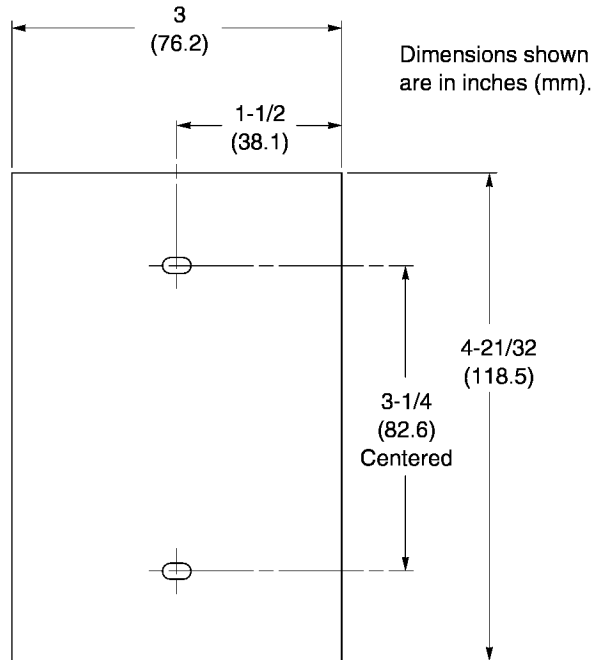
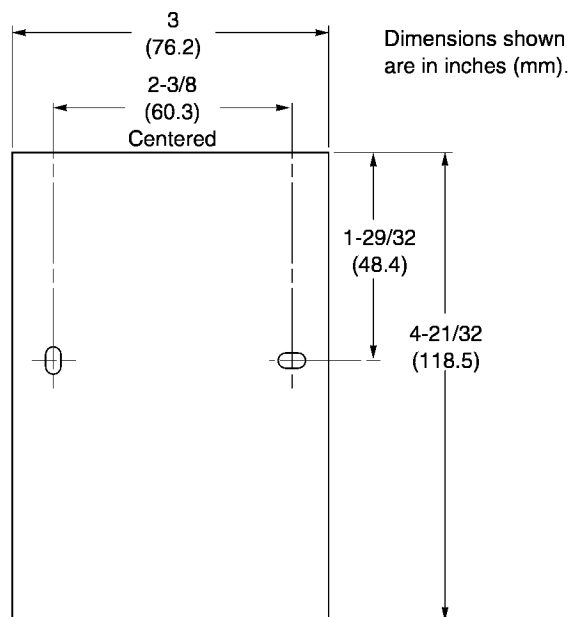

Figure-1 Mounting Dimensions for Direct-wall, 2 x 4 Electrical Box, and Surface Box Mounting.
Figure-2 Mounting Dimensions for 1/4 DIN Electrical Box Mounting.
I/A Series MicroNet Sensors can be direct-wall, 2 x 4 electrical box, 1/4 DIN electrical box, or surface box mounted. See Figure-1 and Figure-2 for appropriate mounting dimensions.
1. Use mounting dimensions shown in Figure-1.
1. Use mounting dimensions shown in Figure-2.